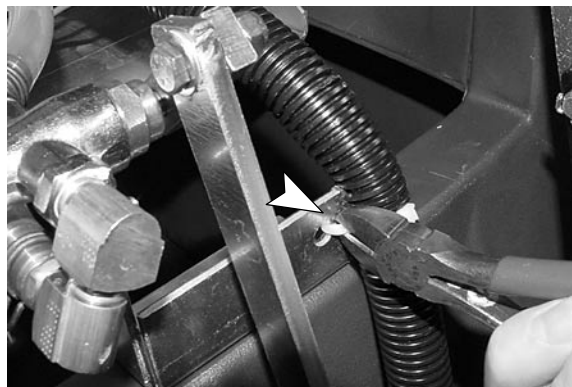

Fig. 2
2. Cut the wire tie that secures the wire harness to the valve bracket as shown (Figure 2).